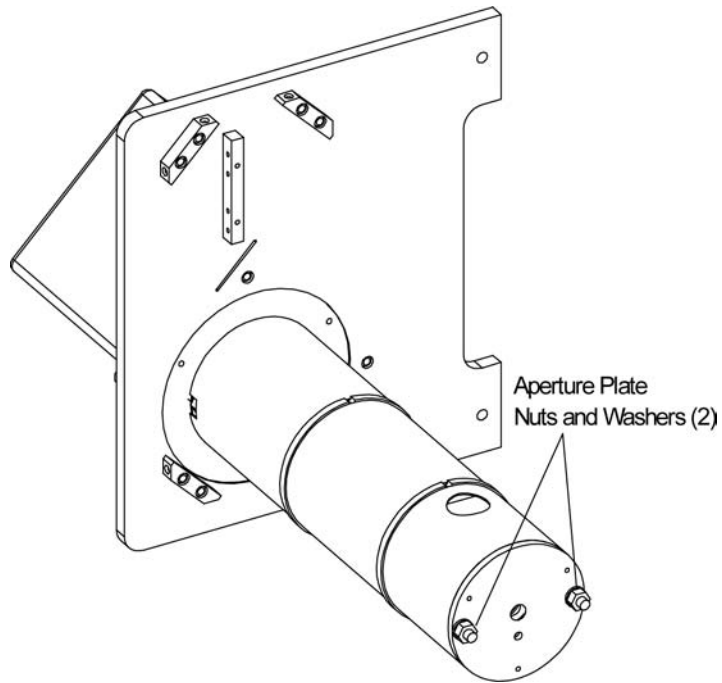

Figure 8-19
9. Set the aperture assembly on a flat surface, PMT end down (Figure 8-19).
- 10.** Using an adjustable wrench, remove the two nuts and washers attaching the plate to the aperture assembly (Figure 8-19).